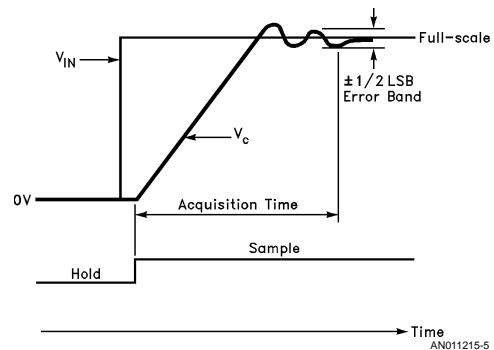

FIGURE 5. Acquisition Time
**Acquisition Time** is the maximum time required to acquire a new input voltage once a sample command has been given (Figure 5). A signal is "acquired" when it has settled within a specified error band around its final value of output voltage. The error band is usually either 0.1%, 0.01%, 1 mV, or  $\frac{1}{2}$  LSB (in applications that involve an ADC). The maximum